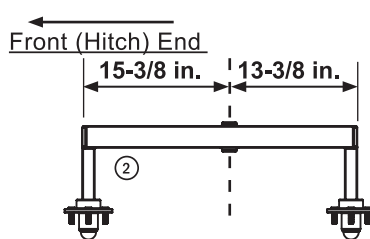
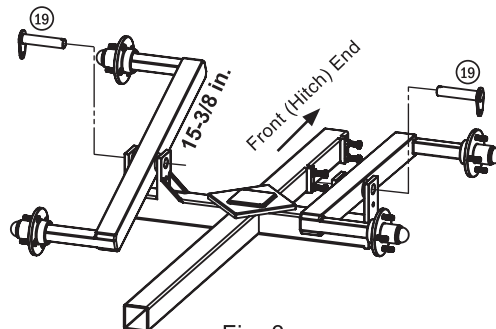
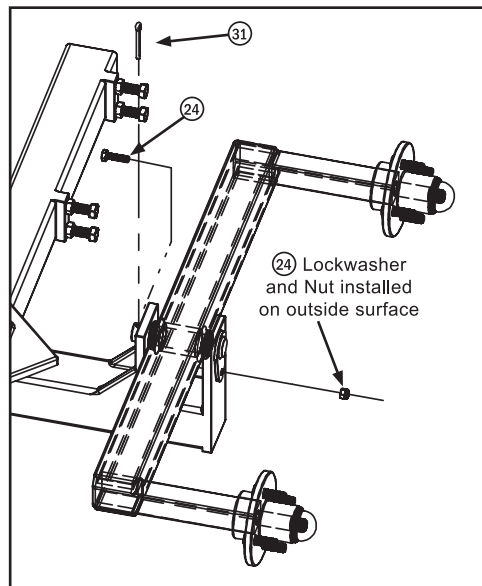
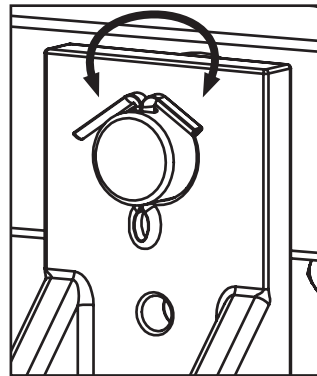

Fig. 2
Fig. 3
Fig. 4
Fig. 5
Step 5: Measure the axles (2). Measure the distance from the pivot hole to each end of the trunnion as shown in Fig. 2. Note that the side with the longer measurement should be assembled pointing towards the front (hitch) end as shown in Fig. 3.
Step 6: Install the Trunnion Pivot Pins. Install the Trunnion Pivot Pins (19) into the Main Frame (1) as shown in Fig. 3. Use the M8x30 Bolt w/Nuts & Washers (24) to secure the pivot pins in place as shown in Fig. 4. NOTE: the nut should be installed on the outside surface, otherwise extending bolt may interfere with the trunnion. Install a 5x50 Cotter Pin (31) into the provided 5 mm hole and bend the ends of the cotter pin (Fig. 5) to ensure it does not fall out.